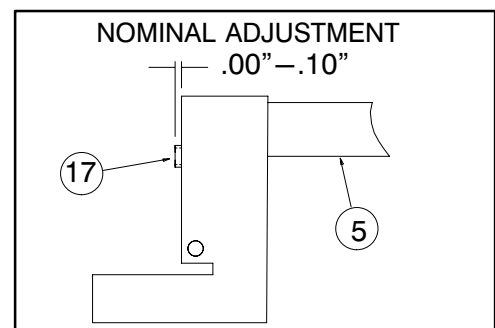

FIGURE 6
2. Adjust Set Screw (Fig 6, #17) as required to ensure that: (see Figure 6)
- a. When Actuator Arm (Fig 6, #5) is released, valve is completely closed.
- b. When Actuator Arm (Fig 6, #5) is raised, valve is fully opened and no air is exhausted from the lower vent hole.